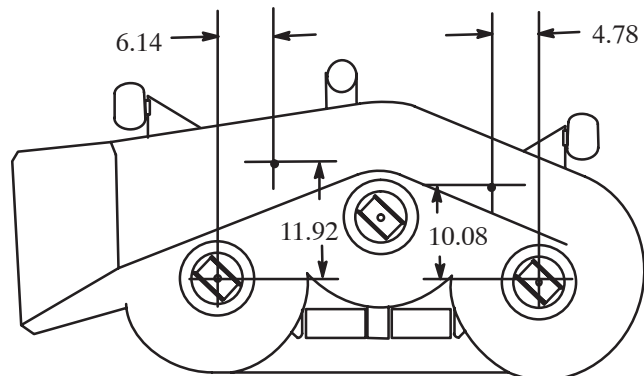

Figure 3
1. On Groundsmaster mowers, use the dimensions shown in figure 3 to locate, mark and drill (2) .344" dia. holes thru top of the mower deck.